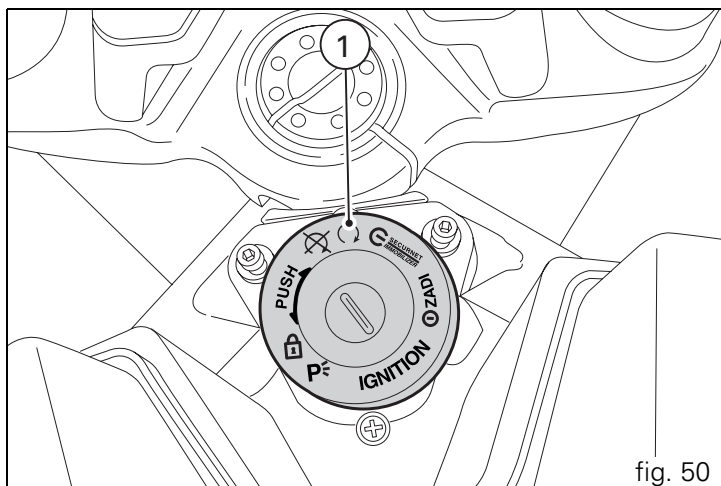

fig. 50
- 1) Turn the ignition switch to position (1, fig. 50).